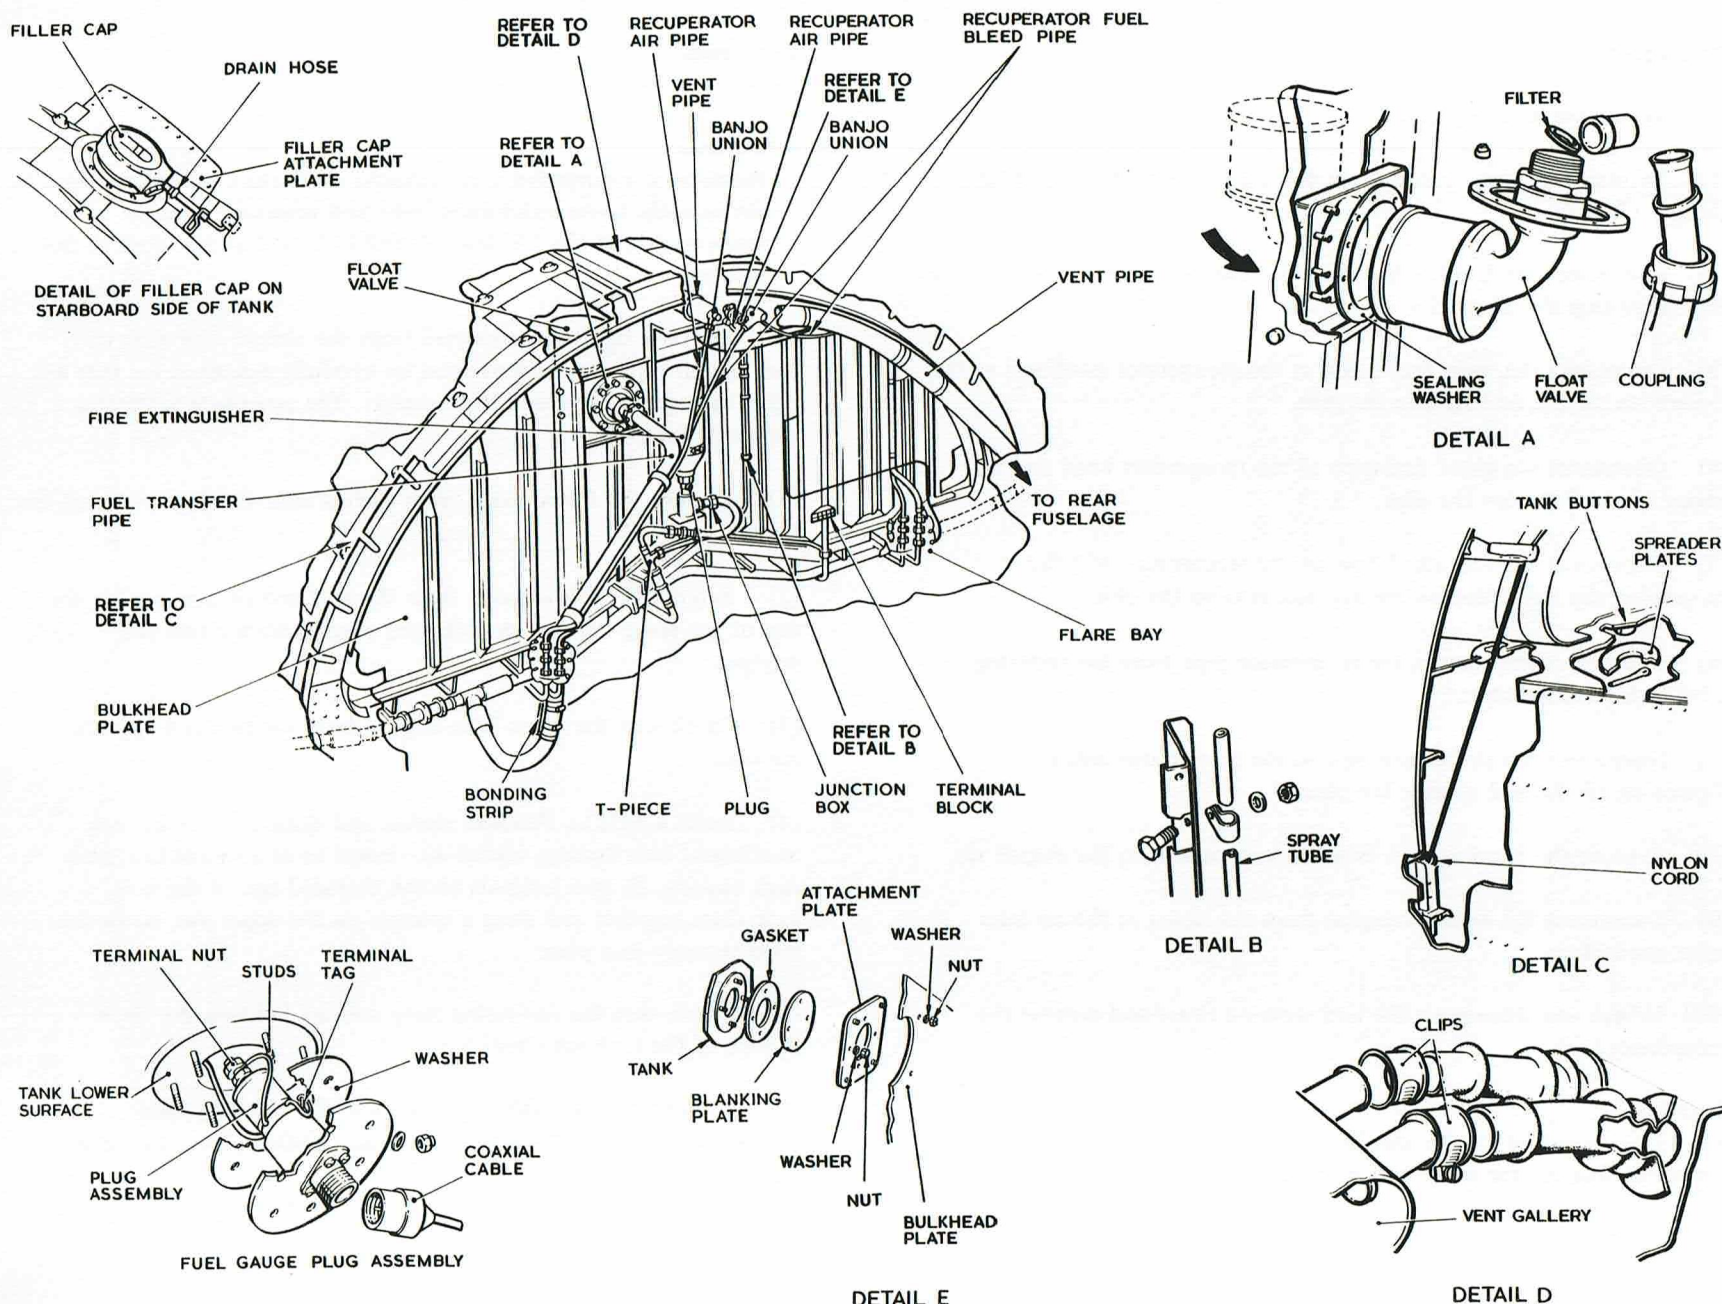

FIG. 14. No. 5 TANK REMOVAL
No. 5 tank fuel gauge plug (fig.14)
No. 5 tank – removal (fig.14)
(1) Ensure that the tank bay is clean and free from any projections or irregularities which may tend to damage the tank.
(2) Check that the felt pads covering the nylon cord attachment lugs on the inner skin of the fuselage are secure.
(3) Ensure that the order of assembly of the nitrogen blanking assembly is as shown in fig.14, detail E; the position of the gasket in particular should be noted. Incorrect assembly will result in a fuel leak.
(4) Before folding, cover any projection such as bolt heads, vent pipes, or other tank fittings with suitable material to prevent damage.
(5) Examine the fuel contents gauging system cable assemblies for damage, corrosion, and security of attachment, prior to installing the tank.